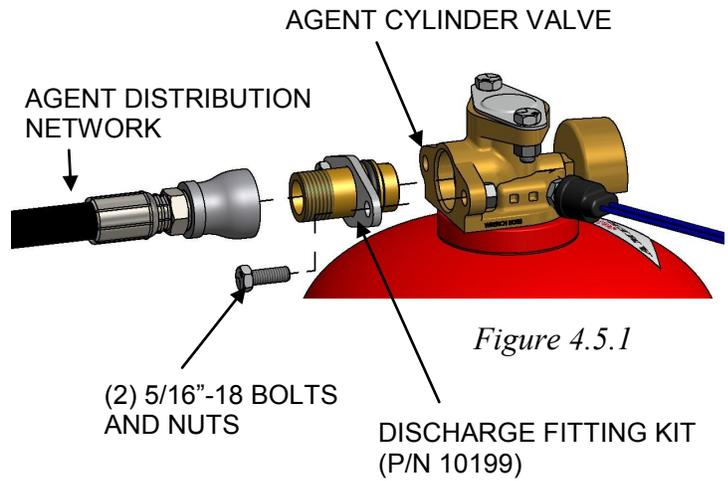

Figure 4.5.1
- After the Cylinder Bracket is installed, vertical Agent Cylinders must be installed with the discharge outlet facing the direction that will allow the Discharge Fitting Kit to be easily connected to the Agent Distribution Network (See Figure 4.5.1). For V250 Agent Cylinders, orient the Agent Cylinder on the Weld Ring such that the Agent Distribution Network can be easily connected to the Agent Cylinder Valve discharge outlet.